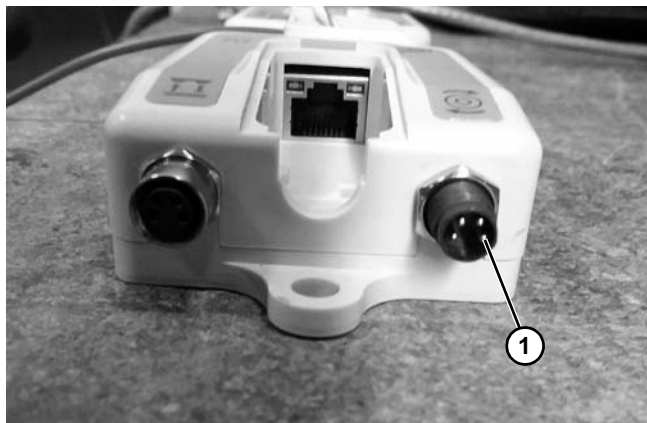

Figure 15
Make sure to line up small pins (Figure 15, item 1) inside motor plug. Excess force could break pins.